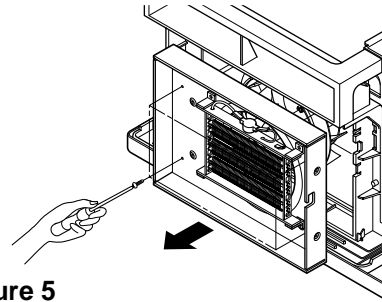

Figure 5
5. Remove the 2 terminals carefully (See Fig. 5, at Electric Heater Model only)
6. Remove the 4 screws which fasten the orifice. (See Fig. 5)
7. Remove the orifice. (See Fig. 5)